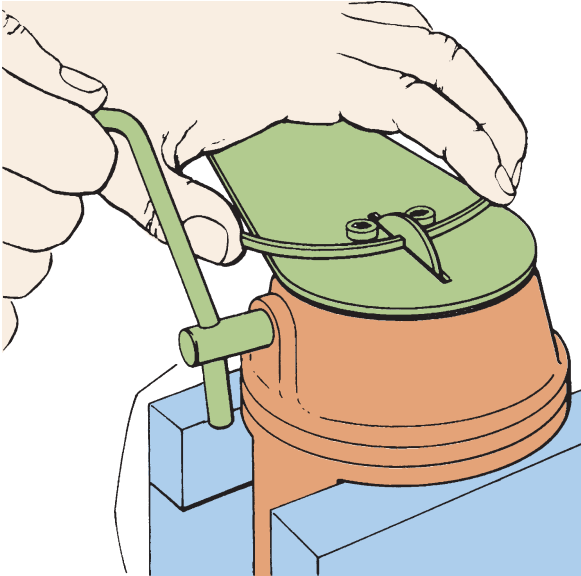

FIGURE 29-44 A hand-operated piston ring end gap grinder being used to increase the end gap of a piston ring so that it is within factory specifications.
- If the gap is too narrow, use a file or hand-operated piston ring grinder to achieve the necessary ring gap. **SEE FIGURE 29-44.**